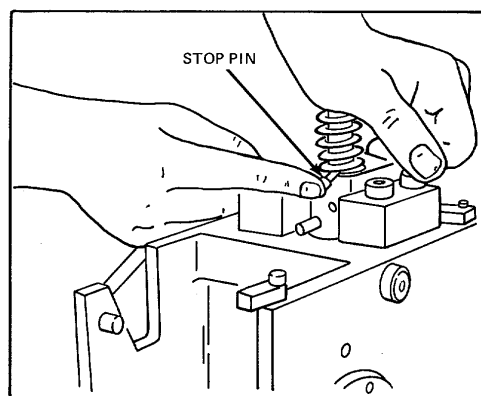

Figure 42. Installing Injector Following Stop Pin
3. Refer to Fig. 42 and place the stop pin on the injector body so that the follower spring rests on the narrow flange of the stop pin. Then align the slot in the follower with the stop pin hole in the injector body. Next align the flat side of the plunger with the slot in the follower. Then insert the free end of the plunger in the injector body. Press down on the follower and at the same time press the stop pin into position. When in place, the spring will hold the stop pin in position.